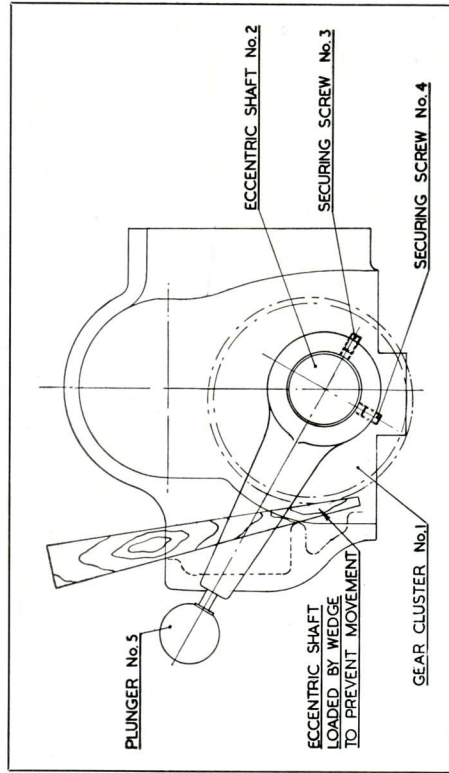

Fig. 34. Showing reduction gear adjustment.
Release the headstock pulley coupling and engage the reduction gear cluster. Place a wedge between the reduction gear cluster (1) and the inside of the headstock casting, as shown in Fig. 34. This will load the eccentric shaft (2) and so prevent movement.
Remove circlip (parts list H77) which retains gear cluster. Release securing screws (Fig. 34, Nos. 3 and 4), withdraw plunger (5) and remove back gear lever. Withdraw 2 B.A. socket set screw (parts list H26) at front end of headstock, which was partially obscured by backgear lever, also the retaining screw (H71), which is inserted through the upper hole for the plunger for the back gear lever. Withdraw eccentric (H78).